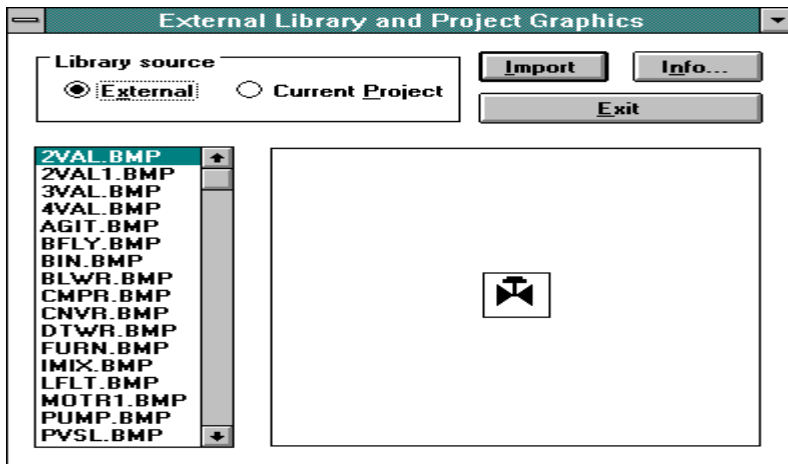

Figure 10-3
Another method of bringing a graphic into a project file is by using the *Graphics Library*. Simply highlight the area in which you wish to place the graphic and select *Graphics Library* from within the *Graphics* menu (or click on the appropriate icon in the *Extra ToolBelt*). This will bring up a dialog box, which is shown below in Figure 10-3.
7. A dialog box will appear, allowing the user to select a graphic. This is the same dialog box that appears whenever *Graphics Library* is selected (see Figure 10-3). We have the value of 1 selected, which is indicative of a blower being on. Selecting the filename BLWR.BMP will give the user a preview of the graphic for a blower. Click on the *Import* button. This will bring up a dialog box in which the label, as well as imaging and dithering options can be selected. Once these have been set, clicking on *OK* will return the user to the dialog box that was present upon entering step 5.
7. A dialog box will appear, allowing the user to select a graphic. This is the same dialog box that appears whenever *Graphics Library* is selected (see Figure 10-3). We have the value of 1 selected, which means that the graphic will be displayed. Selecting the filename BLWR.BMP will give the user a preview of the graphic for a blower. Click on the *Import* button. This will bring up a dialog box in which the label, as well as imaging and dithering